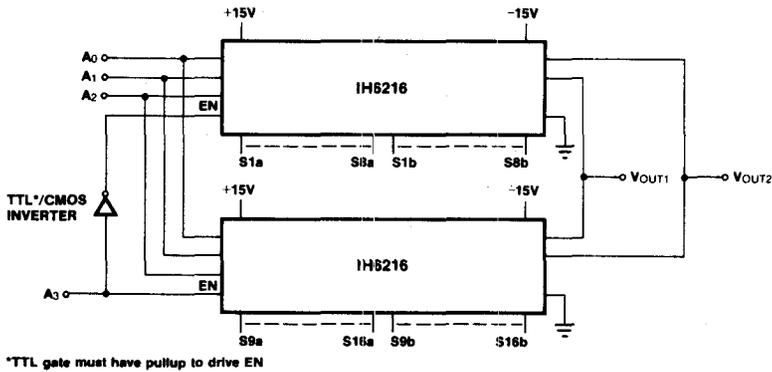
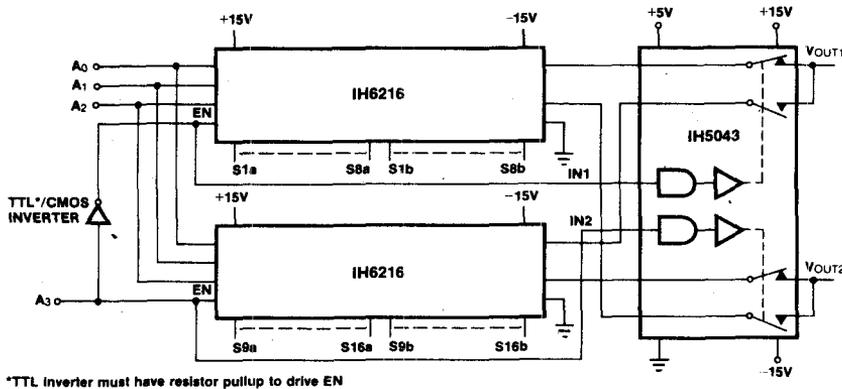
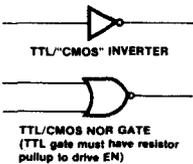

Figure 4
Figure 5
Figure 6
The IH6216 is a two tier multiplexer where 8 pairs of input channels are routed to a pair of outputs in blocks of 4. Each block of 4 input channels is routed to one common output channel, and thus the submultiplexed system looks like 4 blocks of 4 inputs routed to 4 different outputs with the 4 outputs tied in pairs. Thus 20 switches are needed to handle the 16 channels of information. The advantages of this are lower output capacity and leakage than would be possible using a system with all 8 channels tied to one common output. Also the expandability into 2 out of 32, 64, 128, etc. is facilitated. Figures 4, 5, and 6 show how the IH6216 is expanded.
Figure 4 shows a 2 of 32 multiplexer using 2 IH6216s. Since the 6216 is itself a 2 tier MUX, the system as shown is basically a 2 tier system. Corresponding output points of each of the 6216 are connected together, and the enable input strobe is used as the  $A_3$  input. Since each output (pins 2 and 28) corresponds to an "ON" FET and an "OFF" FET, the overall system looks like 1 "ON" FET and 3 "OFF" FETs for each of the  $V_{out1}$  and  $V_{out2}$  outputs. Thus the output leakage will be 1  $I_{D(on)}$  plus 3  $I_{D(off)}$  or about 0.4 nA at room temperature. Thruput speed will be typically 0.8 $\mu$ s for  $t_{on}$  and 0.3 $\mu$ s for  $t_{off}$ , with thruput channel resistance in the 500 $\Omega$  area.
Figure 5 shows the 2 of 32 MUX of Figure 4, with a third tier of submultiplexing added to further reduce leakage and output capacity. The IH5043 has typical ON resistance of 50 $\Omega$  (max. is 75 $\Omega$ ) so it only increases thruput channel resistance from
the 500 ohms of Figure 4 to about 550 ohms for Figure 5. Thruput channel speed is a little slower by about 0.5 $\mu$ s for both ON and OFF time, and output leakage is about 0.2 nA.
Figure 6 shows a 2 of 64 MUX using 3 tier MUXing (similar to Figure 5). The Intersil IH5043 is used for the third tier of MUXing. Each  $V_{out}$  point will see 3 OFF channels and 1 ON channel at any time, so that the typical leakages will be about 0.4 nA. Thruput channel resistance will be in the 550 $\Omega$  area and thruput switching speeds will be about 1.3 $\mu$ s for ON time and 0.8 $\mu$ s for OFF time.
The enable input (EN) acts as an enabling or disabling pin for the IH6216 when used as a 2 out of 16 channel MUX, however when expanding the MUX to more than 16 channels, the EN pin acts as another address input. Figures 4 and 5 show the EN pin used as the  $A_3$  input.